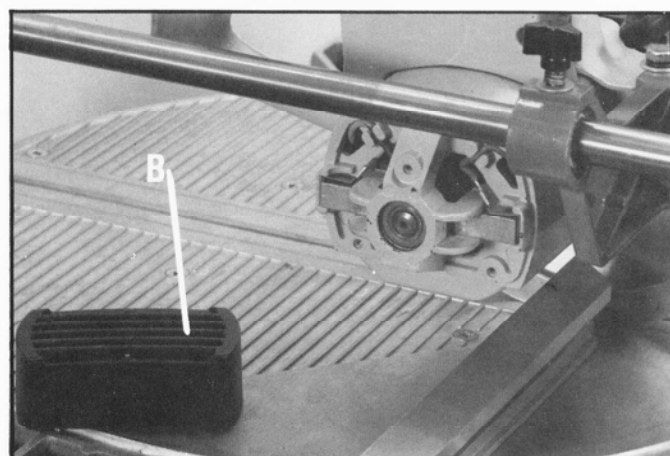

Fig. 77
3. Fig. 77 illustrates the motor end cap (B) removed from the motor housing.